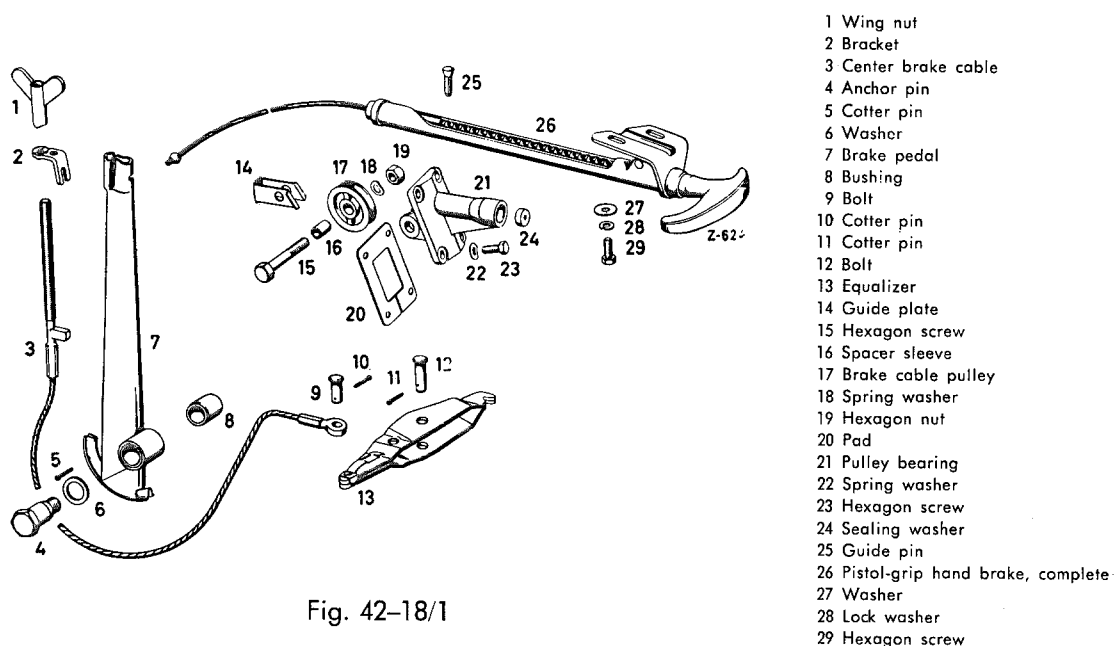

Fig. 42-18/1
Also on this model the pistol-grip hand brake is arranged on the left side below the steering column. The guide tube of the ratchet is not attached to the steering column jacket but to the cowl (by two hexagon screws at the top and by the pulley bearing (21) below), and the front brake cable is carried by the brake cable pulley (17) (Fig. 42-18/1).
When reinstalling the ratchet make sure that the guide plate (14) is properly seated on the pulley (17) (Fig. 42-18/1).